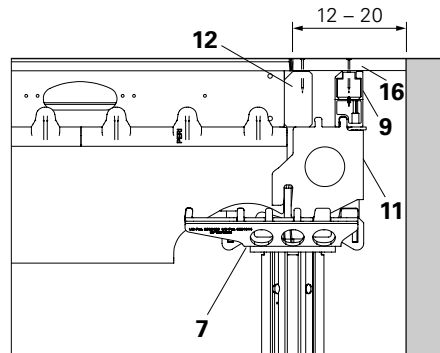

Fig. A5.26
1. Mount Combihead SCK turned by 180° (7) or Prophead SSK in the main beam support.
- (Fig. A5.26 + A5.27)